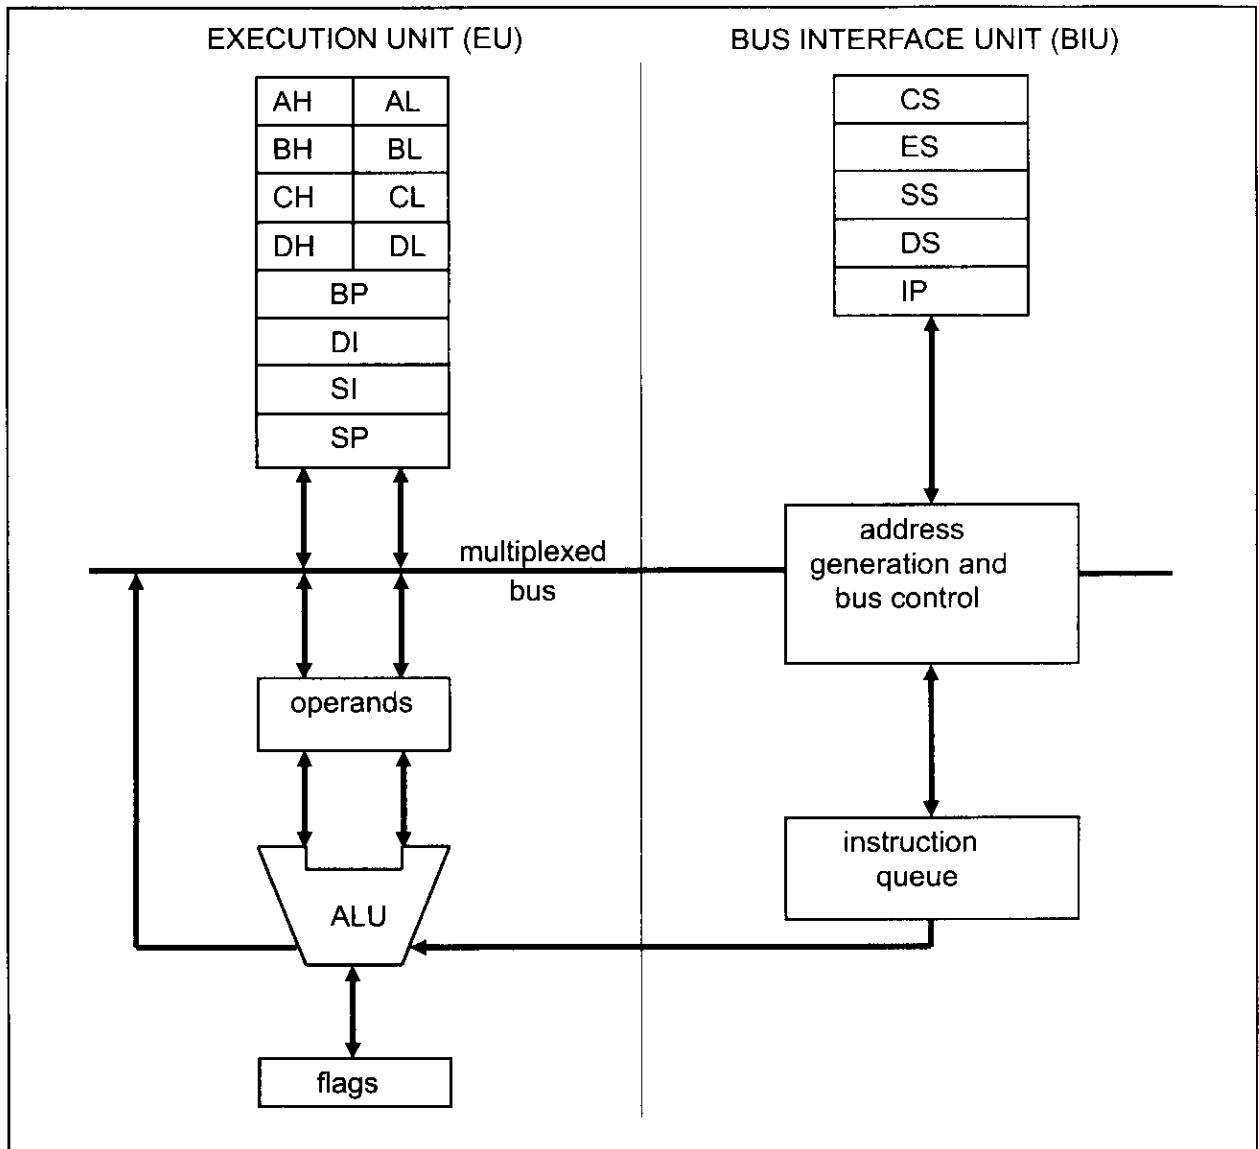

Figure 1-1. Internal Block Diagram of the 8088/8086 CPU
In this section we explore concepts important to the internal operation of the 8088/8086, such as pipelining and registers. See the block diagram in Figure 1-1.
Intel implemented the concept of pipelining in the 8088/86 by splitting the internal structure of the microprocessor into two sections: the *execution unit* (EU) and the *bus interface unit* (BIU). These two sections work simultaneously. The BIU accesses memory and peripherals while the EU executes instructions previously fetched. This works only if the BIU keeps ahead of the EU; thus the BIU of the 8088/86 has a buffer, or queue (see Figure 1-1). The buffer is 4 bytes long in the 8088 and 6 bytes in the 8086. If any instruction takes too long to execute, the queue is filled to its maximum capacity and the buses will sit idle. The BIU fetches a new instruction whenever the queue has room for 2 bytes in the 6-byte 8086 queue, and for 1 byte in the 4-byte 8088 queue. In some circumstances, the microprocessor must flush out the queue. For example, when a jump instruction is executed, the BIU starts to fetch information from the new location in memory and information in the queue that was fetched previously is discarded. In this situation the EU must wait until the BIU fetches the new instruction. This is referred to in computer science terminology as a *branch penalty*. In a pipelined CPU, this means that too much jumping around reduces the efficiency of a program. Pipelining in the 8088/86 has two stages: fetch and execute, but in more powerful computers pipelining can have many stages. The concept of pipelining combined with an increased number of data bus pins has, in recent years, led to the design of very powerful microprocessors.